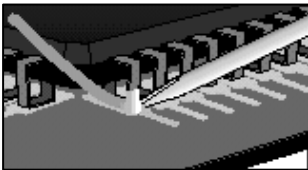

Figure 2: Tack Lead.
4. Apply flux and tack solder opposing corner leads. (See Figure 2.)